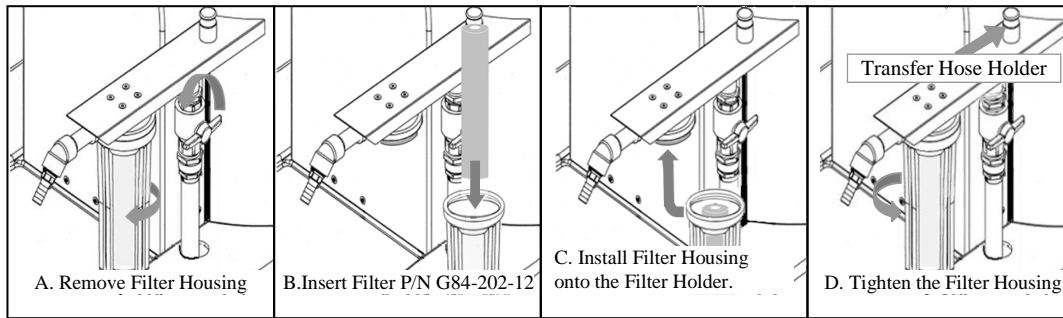

Figure 3
12. Remove Filter Housing and drain all residual water from the Housing. Install new filter and tighten Filter Housing into place. See Figure 3.